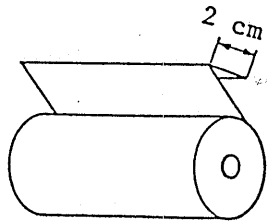

Fig. 14.2
2) Fold back a 2 cm-wide portion of paper tip outward (Fig. 14.2).